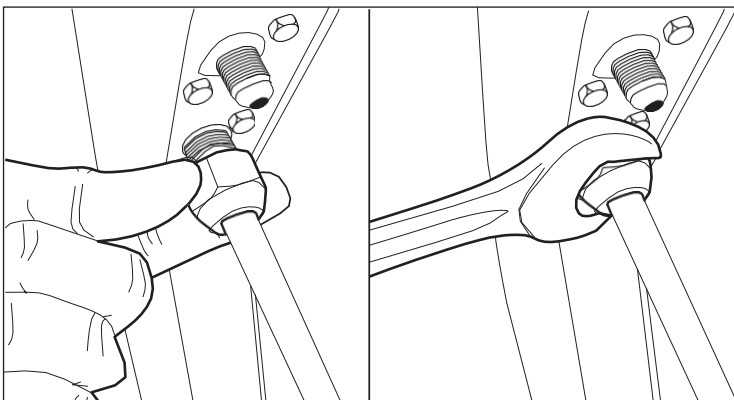

Figure 7. First finger tighten the nut, then tighten it with a wrench.
- Finger-tighten the fitting (flare) several turns, then tighten it with a (torque) wrench (see Figure 7) by applying the tightening torque indicated in table 1.